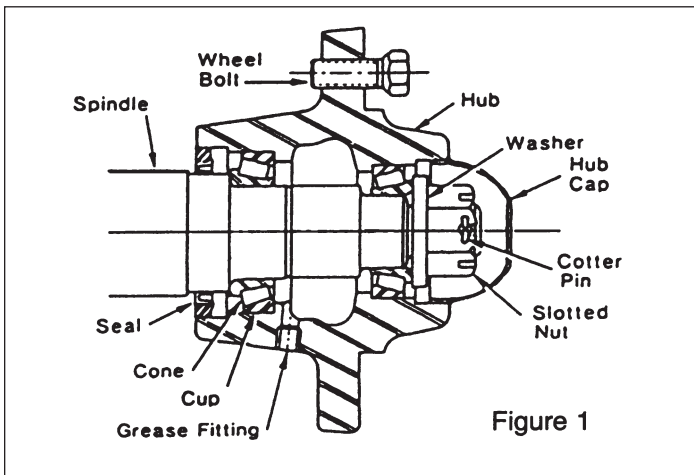

Figure 1
5. Reassemble hub and bearings. ( fig 1)